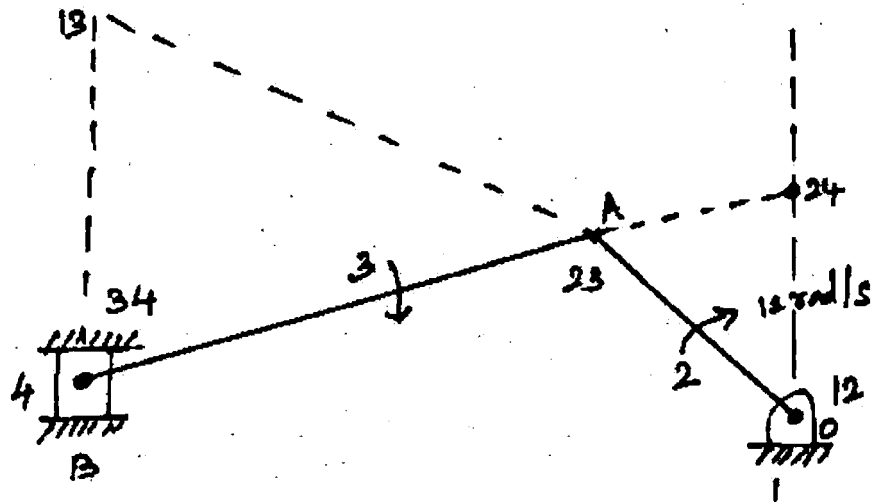

Fig. 4
- (ii) Locate the instantaneous centre's of the slider crank mechanism shown in fig.4. Find the velocity of the slider. (8)